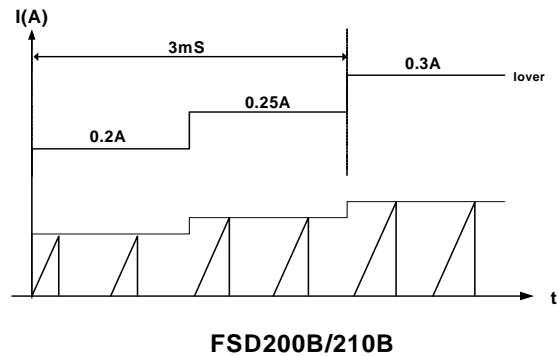

Figure 11. Internal Soft Start
5. Soft Start : FSD200B/210B has an internal soft start circuit that gradually increases current through the Sense FET as shown in figure 11. The soft start time is 3msec in FSD200B/210B.